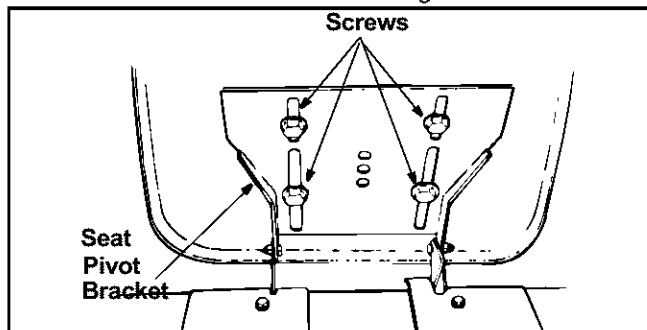

Figure 3
- Remove the four screws from the seat and remove the packing straps from two of the bolts. Turn the seat around and place it in position against the seat pivot bracket, lining up the slotted holes in the pivot bracket with the holes in the seat. Select desired position for the seat, and secure with the four screws removed earlier. See Figure 3.